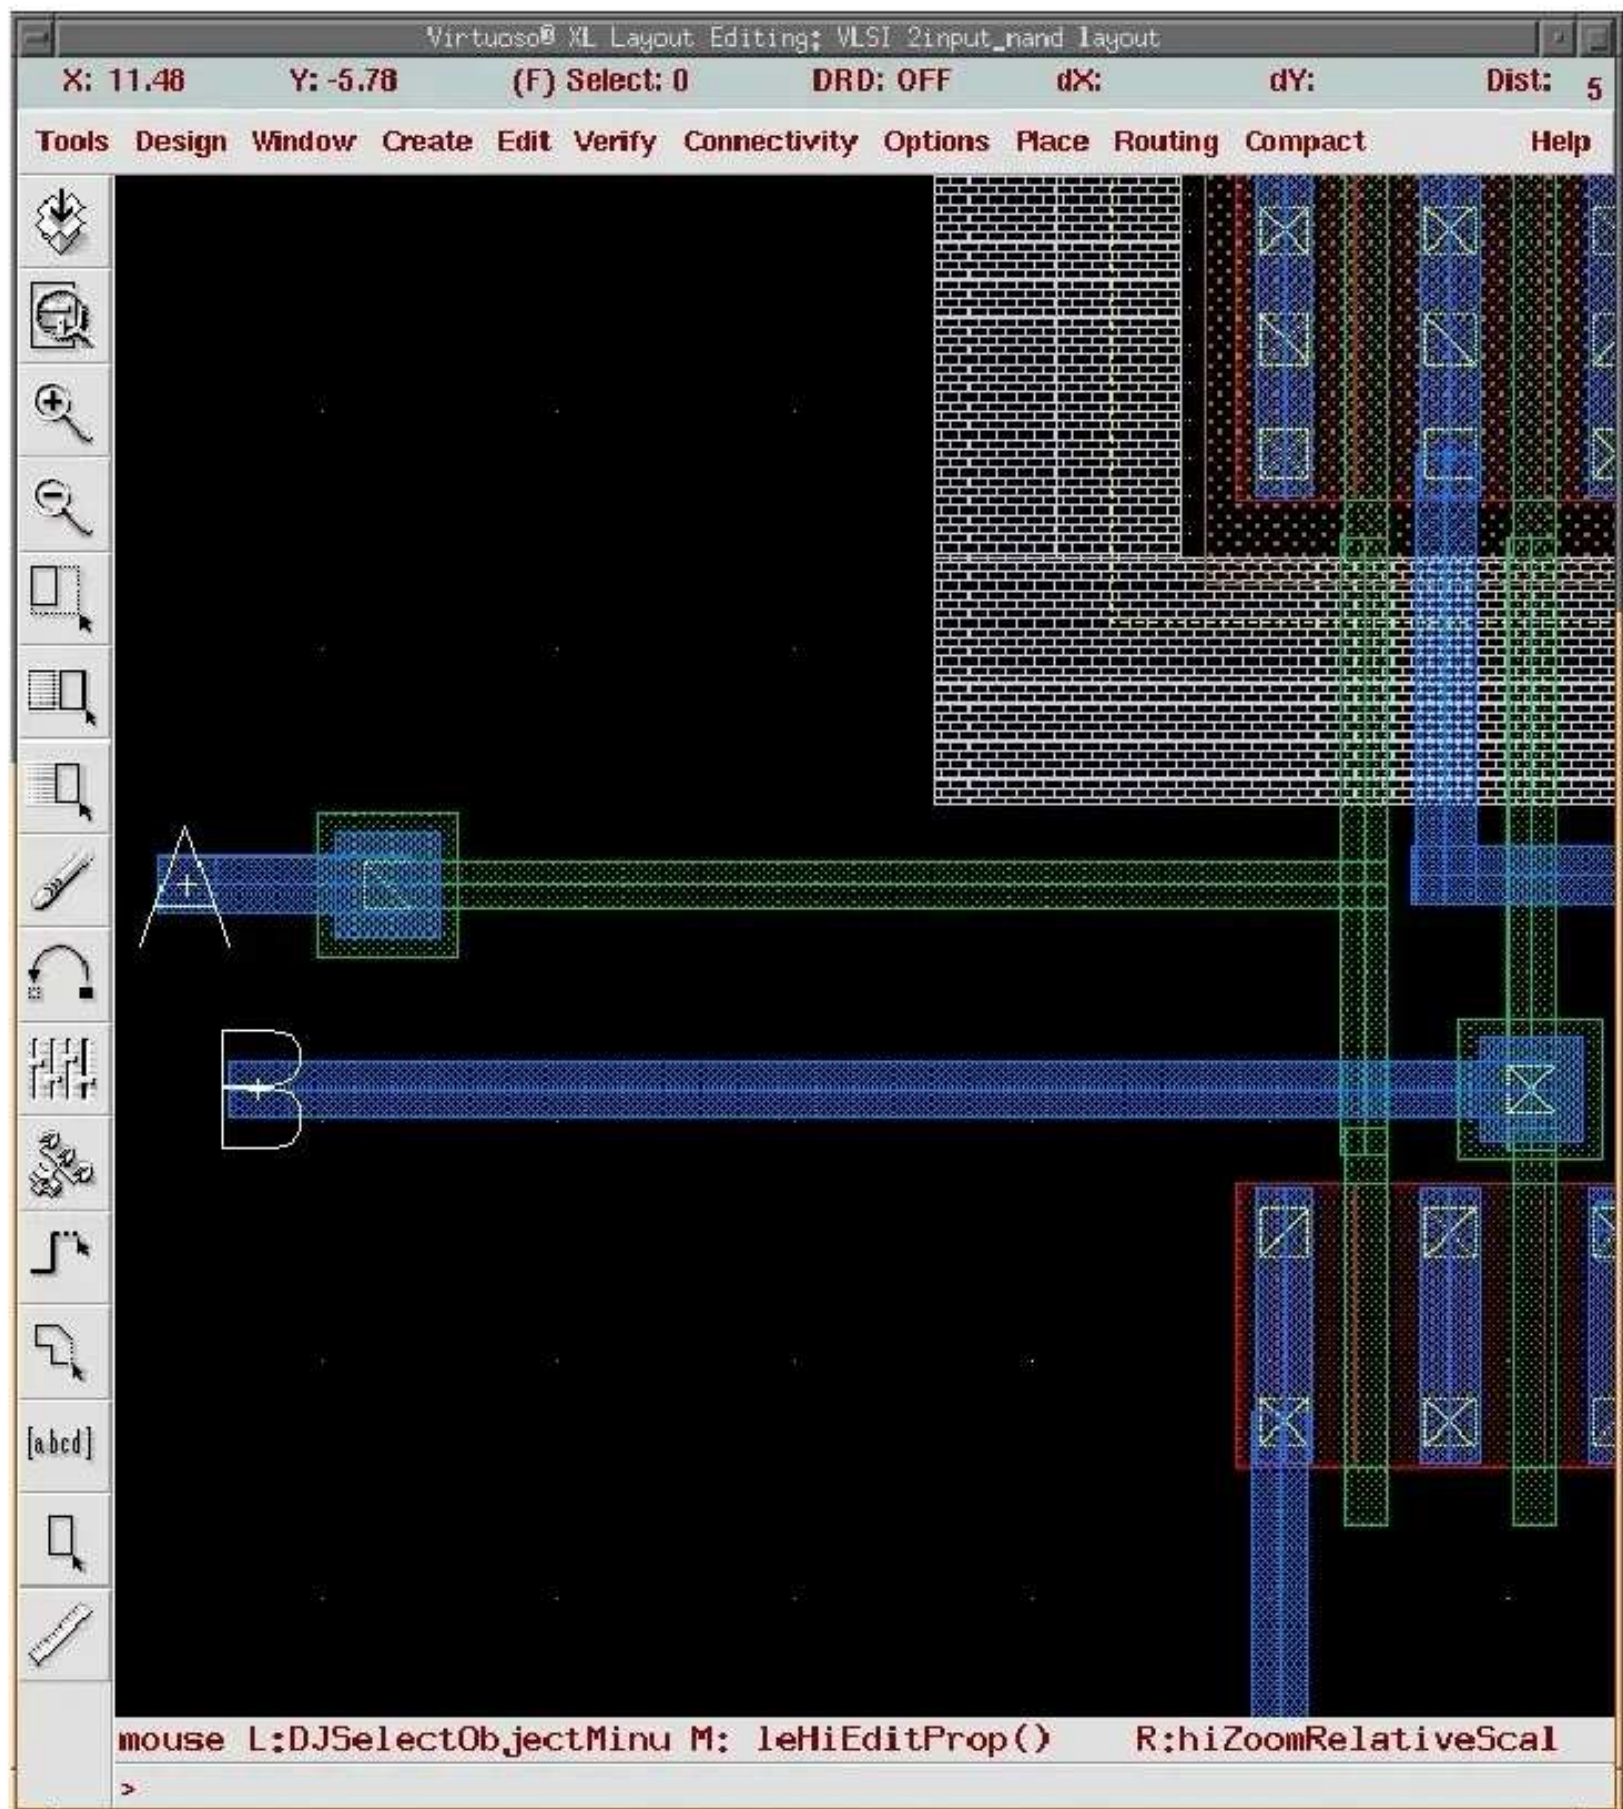

Figure 42- Inputs of NAND gate in layout
**Note10.** After you connect the first gate poly layer to input A, for connecting the second gate poly layer to input B, you should not use metal 1 layer; otherwise the two gates will be connected to each other. The correct way is shown in figure 42.